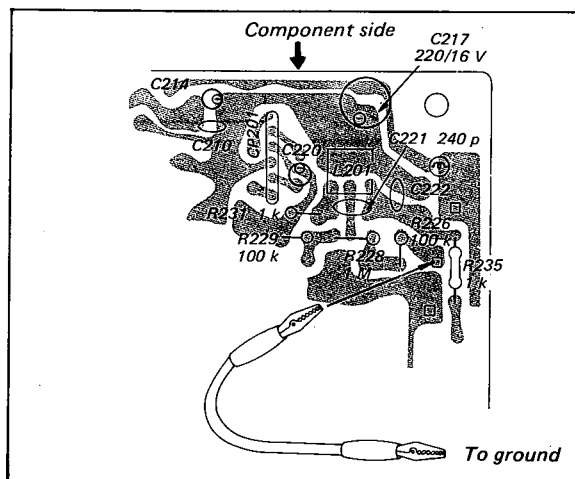

Fig. 3-1. Interruption of AFC circuit.
1. Short the AFC circuit to ground as shown in Fig. 3-1.
Short the AFC circuit to ground as shown in Fig. 3-1 on Page 9.
Short the AFC circuit to ground as shown in Fig. 3-1.